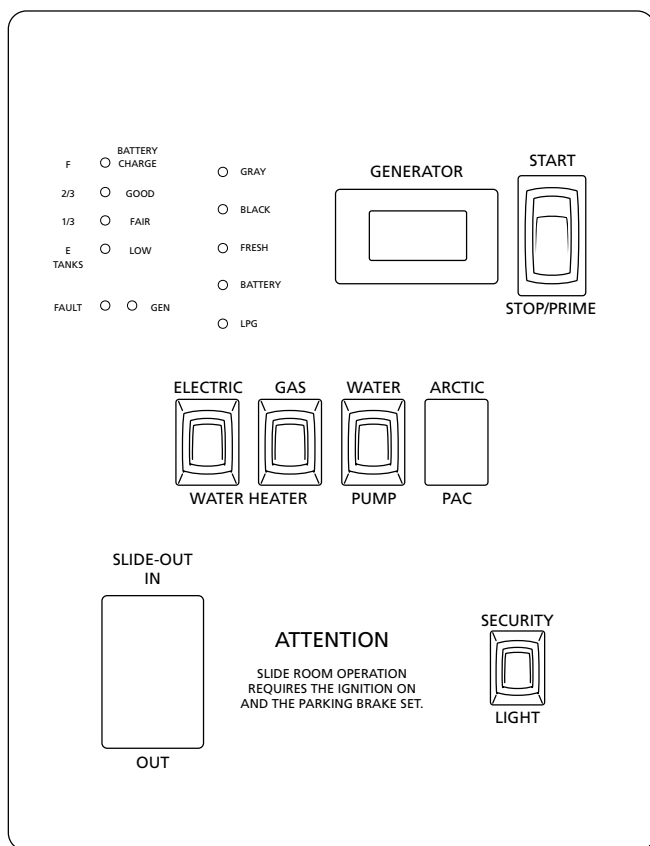
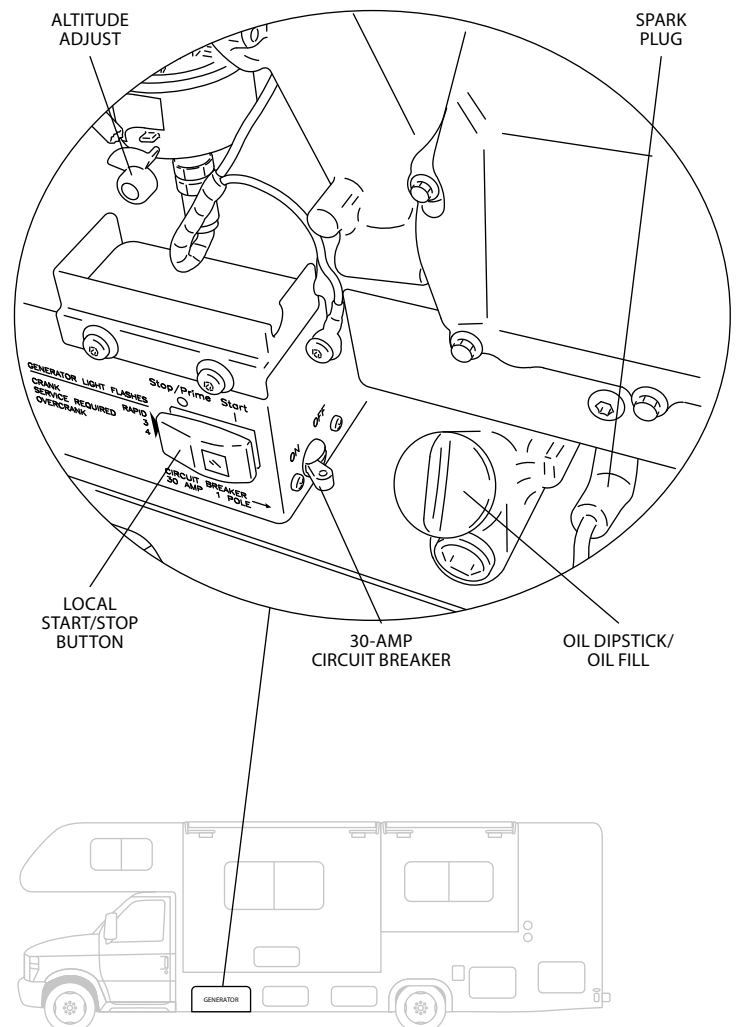

FIGURE 10: MONITOR PANEL
FIGURE 13: GENERATOR COMPARTMENT
In El Monte RVs the monitor panel displays the status of many of the RV's systems, see FIGURE 10: MONITOR PANEL on this page.
See FIGURE 13: GENERATOR COMPARTMENT on page this page.
3. The generator **START/STOP** switch is located on the monitor panel. See Figure 10: MONITOR PANEL on page 22. There is a second generator **START/STOP** switch on the generator itself. If the generator will not start from the switch inside the RV, try the switch on the generator. Some generators can be started by hand with a cord like a lawn mower. FIGURE 13: GENERATOR COMPARTMENT on previous page.